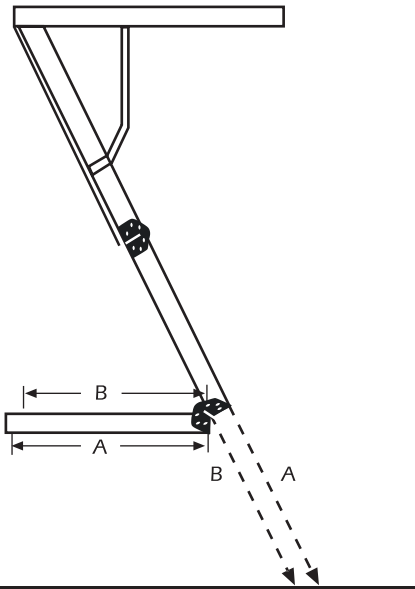

Fig. 8
Step 9- Fully extend the folding section of the stairway. Fold the bottom section of the stairway under the middle section, so that the top and middle sections form a straight line (See Fig. 8). Apply pressure on the stairs to ensure the spring arms are fully extended.
Step 10- Place a straight edge on top of the middle section and slide it down until it contacts the floor. Measure the distance from the end of the middle section to the floor (A in Fig. 8). Mark the distance on the A side (front) of the bottom stringer.
Step 11- Place a straight edge on the bottom of the middle section and slide it down until it contacts the floor. Measure the distance from the end of the middle section to the floor (B in Fig. 8). Mark the distance on the B side (back) of the bottom stringer. It is possible for the landing area to be uneven, so repeat this procedure on the other stringer.